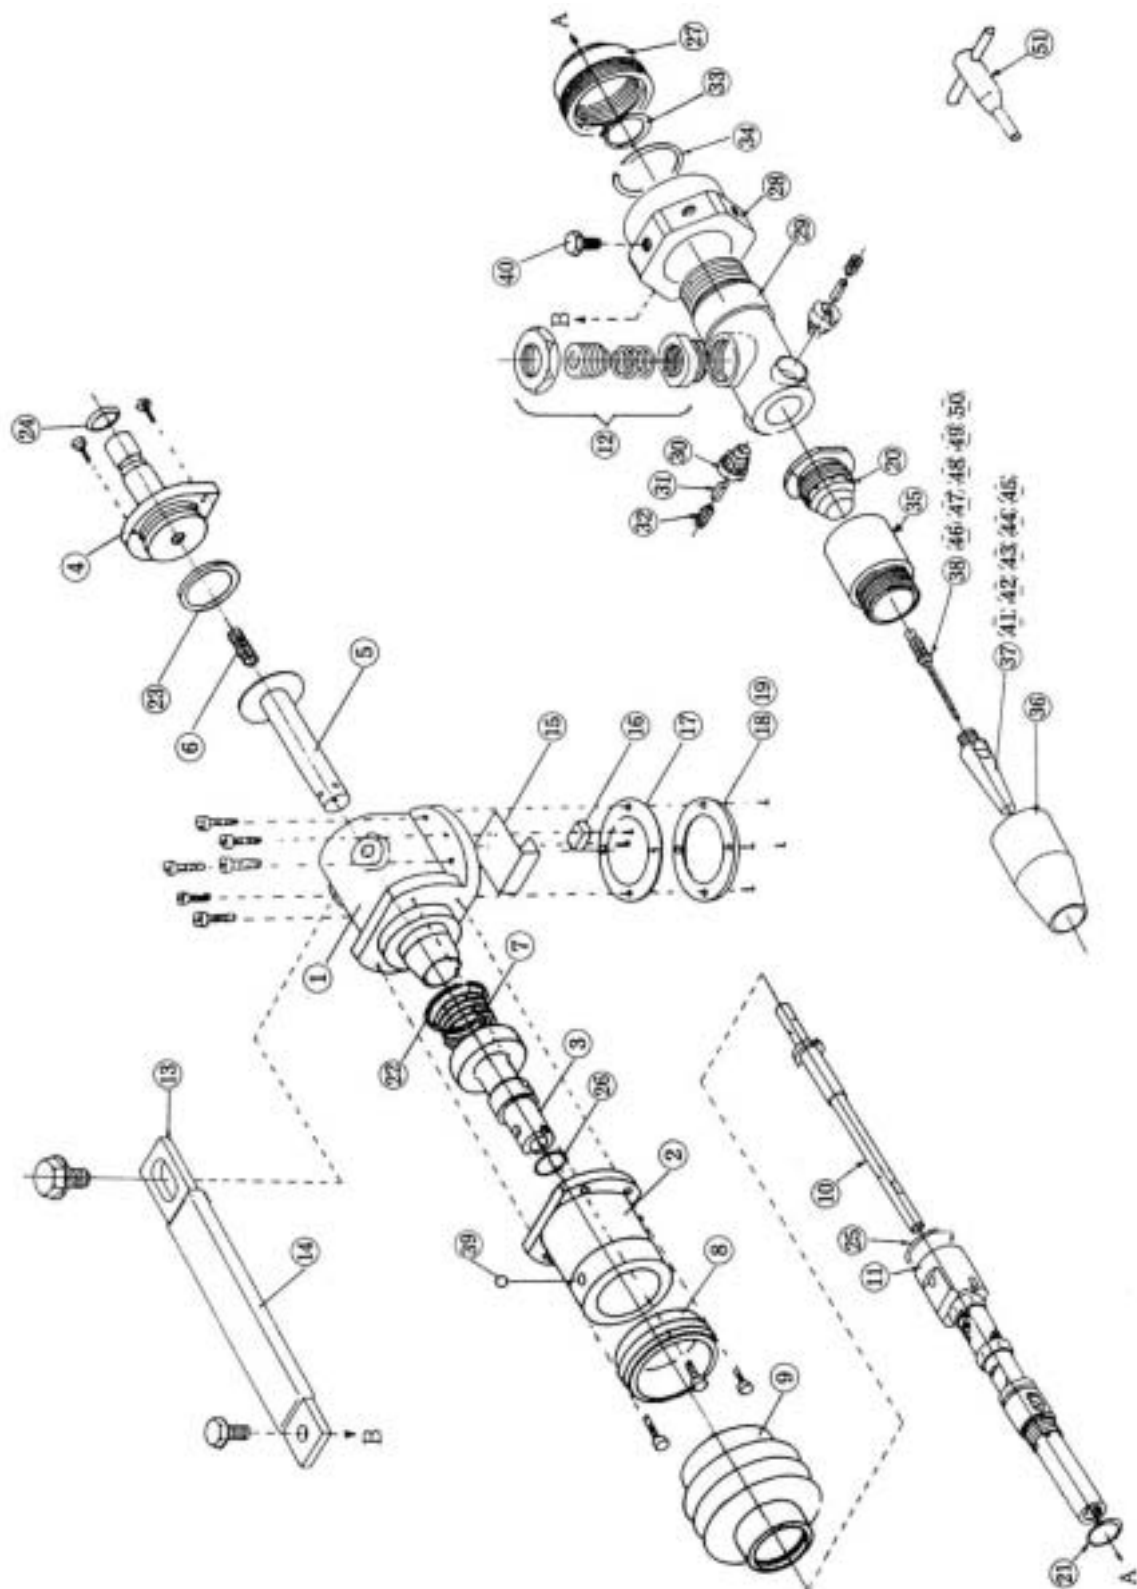

Fig.7 Exploded diagram of forced pressure power feeding torch
- If the components are consumed or damaged while this torch is used, refer to Fig.7 and Table 4, and contact our local distributors or sales agents. When ordering, be sure to inform us of the product name and parts No. (or specification).